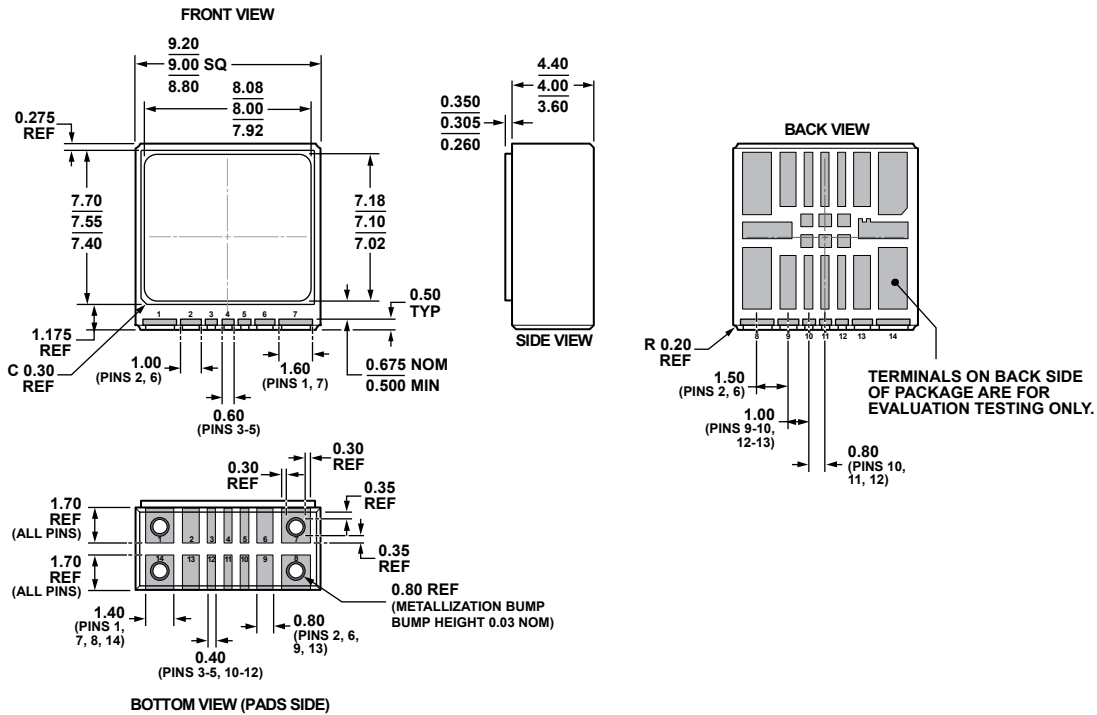

Figure 38. 14-Terminal Ceramic Leadless Chip Carrier, Vertical Form [LCC\_V] (EY-14-1)
1. THE PACKAGE HAS TERMINALS ON TWO FACES. HOWEVER, THE TERMINALS ON THE BACK ARE FOR INTERNAL EVALUATION ONLY AND SHOULD NOT BE USED IN THE END APPLICATION. THE TERMINALS ON THE BOTTOM OF THE PACKAGE INCORPORATE METALLIZATION BUMPS THAT ENSURE A MINIMUM SOLDER THICKNESS FOR IMPROVED SOLDER JOINT RELIABILITY. THESE BUMPS ARE NOT PRESENT ON THE BACK TERMINALS AND, THEREFORE, POOR SOLDER JOINT RELIABILITY CAN BE ENCOUNTERED IF THE BACK TERMINALS ARE USED IN THE END APPLICATION. FOR THE OUTLINE DIMENSIONS OF THIS PACKAGE, SEE FIGURE 38.